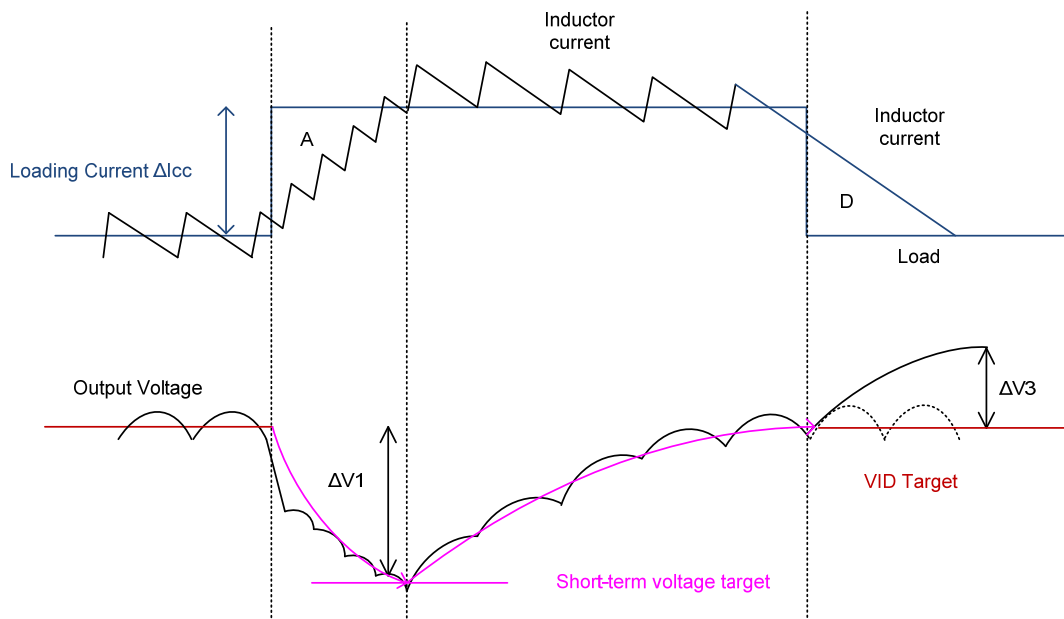

Figure 10. Zero Loadline with AC-droop Control
Figure 10 shows the condition with AC-droop control. While loading occurs, the controller temporarily changes VID target to short-term voltage target. Short-term voltage target is related to transient loading current ΔI_{CC} and can be represented as the following :
where the VCS_SUM is the sum of current sensing signal from DCR sensing or SPS current sensing. For DCR sensing, the VCS_SUM = VCSUM - VCSNSUM = IOUT_SUM x DCR/N. The current gain (AI) can be set by Pin Setting of AI Gain. Users can adjust AI gain by I²C register 0x41[3:2] to set desired short-term voltage target. The short-term voltage target reverts to VID target slowly after approximately 100μs. The short-term voltage target can help inductor current not to exceed loading current too much and then the ring back can be suppressed. Referring to Figure 10, the overshoot amplitude is reduced to only $\Delta V3$.